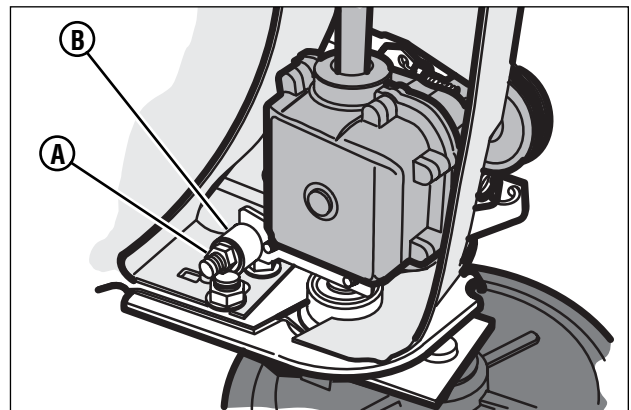

Figure 20: Setting the belt tension
- a. Tighten the adjuster nut (**A**, **Figure 20**) until the nut touches the spacer (**B**). Try to turn the spacer. When the adjuster nut touches the spacer, the spacer will not turn.